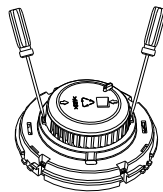

Fig. 6
- a) Open the top cover of detector, and draw out the sensing chamber by slightly lifting its two sides using a straight screwdriver, as shown in Fig.6.